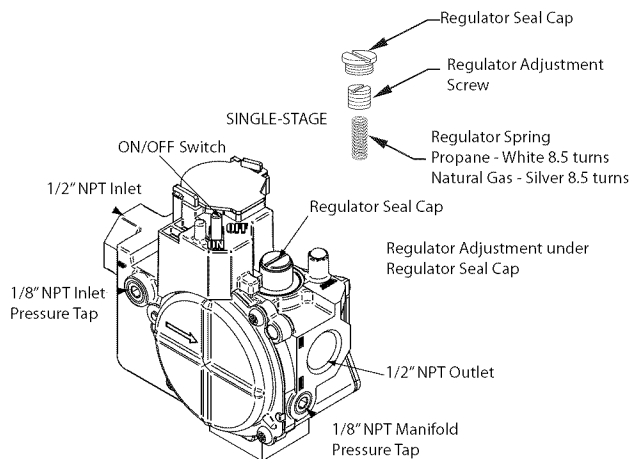

Fig. 8 - Single-stage valve
NOTE: Do NOT use this kit if the gas valve in Fig. 8 has a green label on top of the valve. The green label on the gas valve is a special low capacity gas valve. Refer to the Product Data or Specifications for the correct conversion kit.
1. Refer to Fig. 8.
3. Remove cap that conceals the adjustment screw for the gas-valve regulator. (See Fig. 8.)
8. Turn the adjusting screw clockwise (in) 8.5 full turns. This will increase the manifold pressure closer to the natural gas set point. (See Fig. 8.)
1. Verify manometer is connected to inlet pressure tap on gas valve. (See Fig. 8.)
3. Attach manometer to manifold pressure tap on gas valve. (see Fig. 8.)